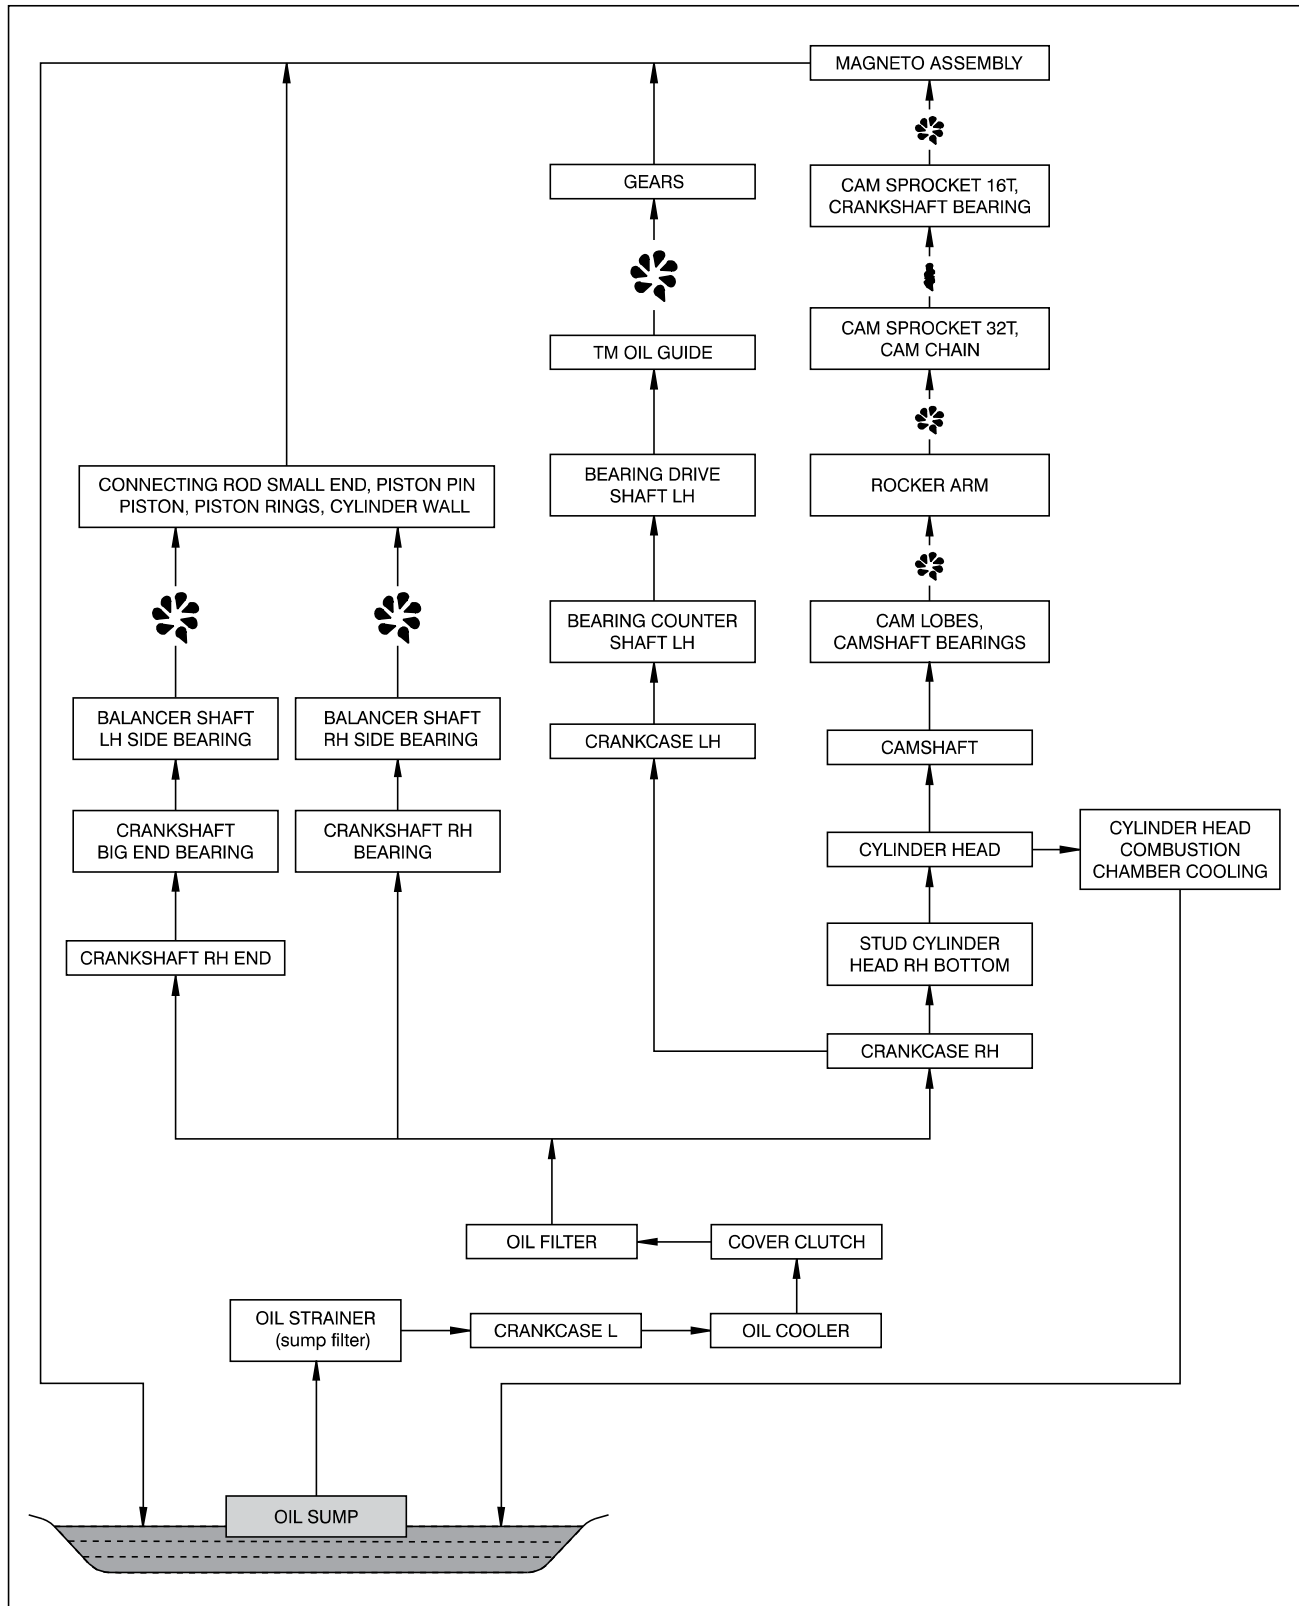

Fig. 4.39
- The oil circuit is shown in the figure.(Fig. 4.39)